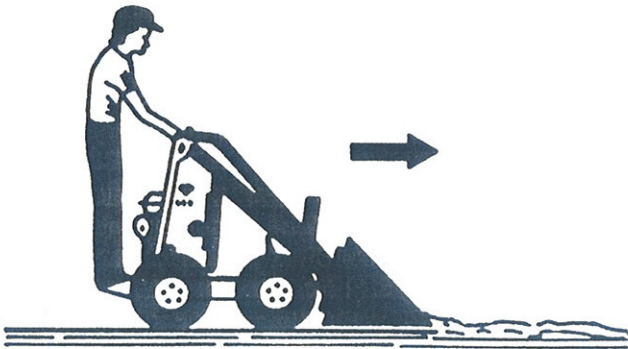

FIGURE 16
3. Another method of levelling is to travel forward with bucket down and level, full of material and pushing excess into low areas. Depth is controlled by tilting the bucket slightly up or down, as in **Figure 16**.